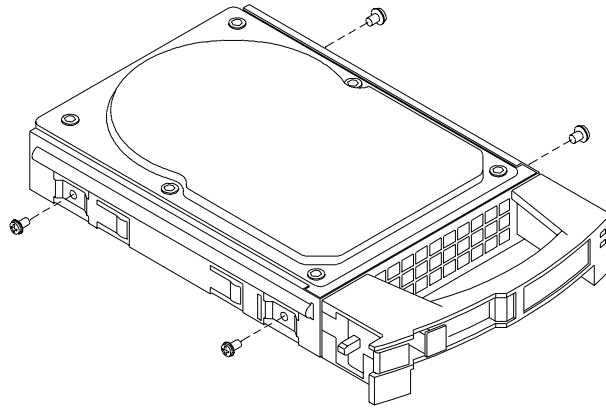

Figure 4-55. Mounting the Hard Drive into the Drive Carrier
7. Secure the drive in the drive carrier with the four screws supplied with the disk drive. See Figure 4-55.
6. Secure the drive in the drive carrier with the four screws supplied with the disk drive. See Figure 4-55.